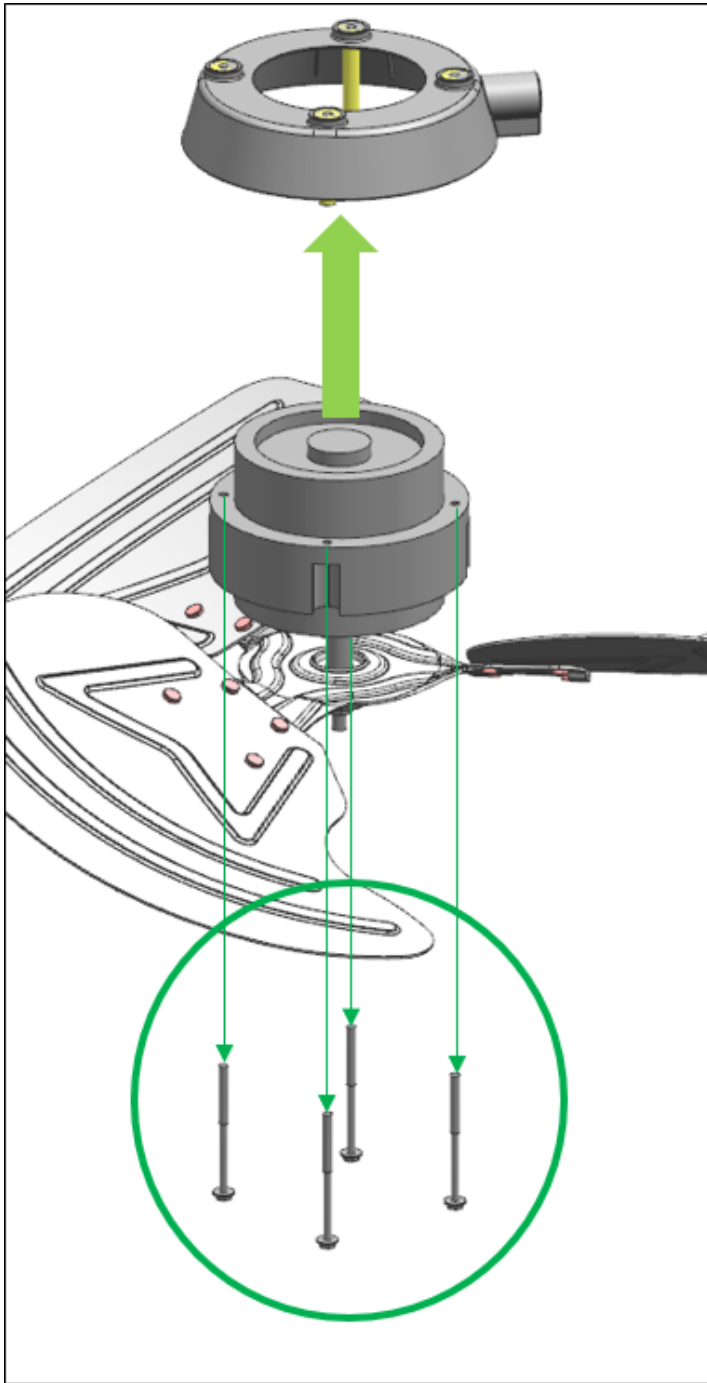

Fig.6
7. To remove the fan blades from the motor, begin by removing the four long bolts shown below (Fig.6) and lifting up the motor cover;